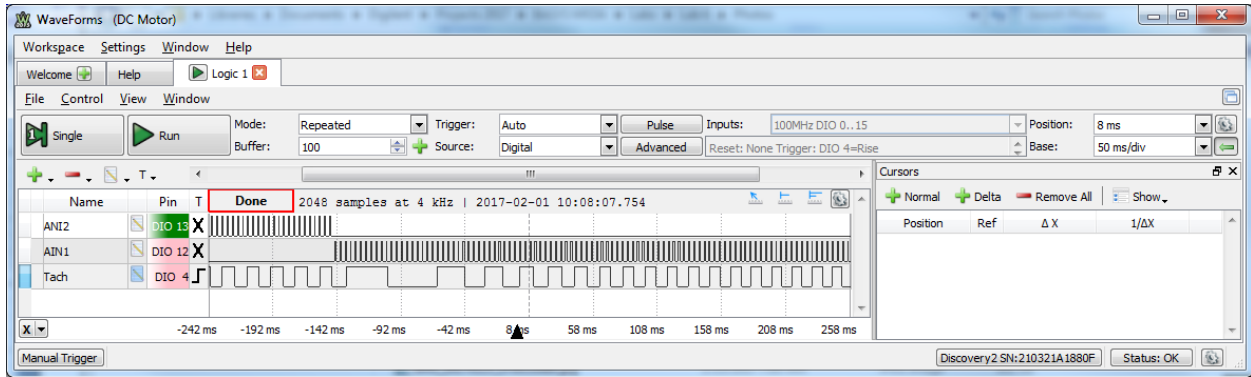

Figure 8.4. PWM output timing.
- c. Using the oscilloscope single trace, capture the tachometer transition just when the motor rotation direction is reversed using SW7, as shown in Fig. 8.4.